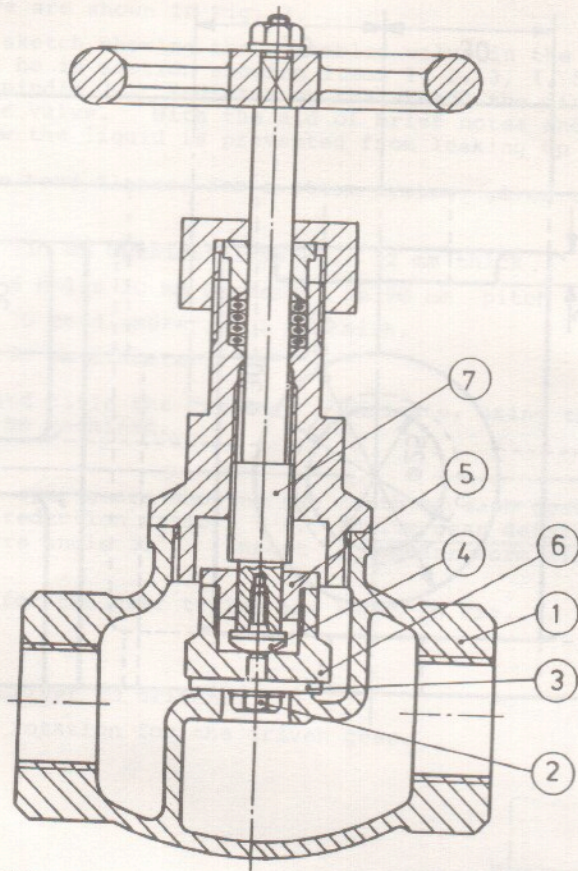

FIG. 3.
3. Details of a globe valve are shown in Fig. 3.